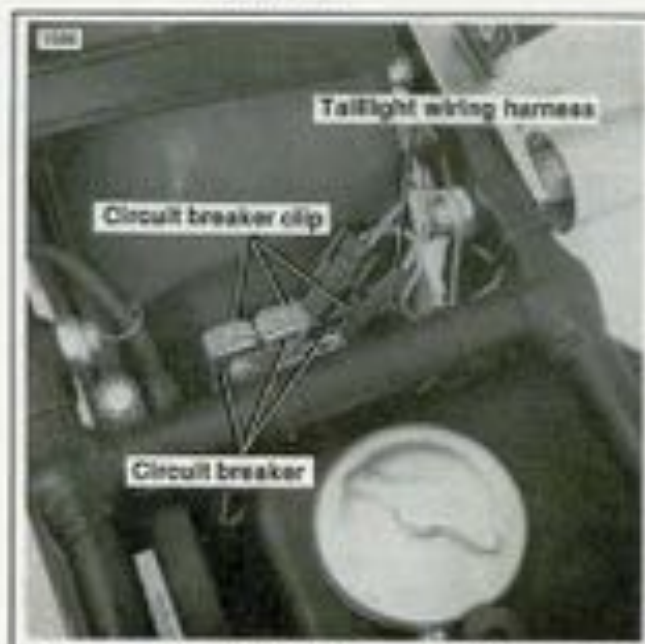

Figure 2-128. Tailight Wiring and Circuit Breakers
1. See Figure 2-128. Unplug the taillight assembly and pull the circuit breakers out of the retaining clips.